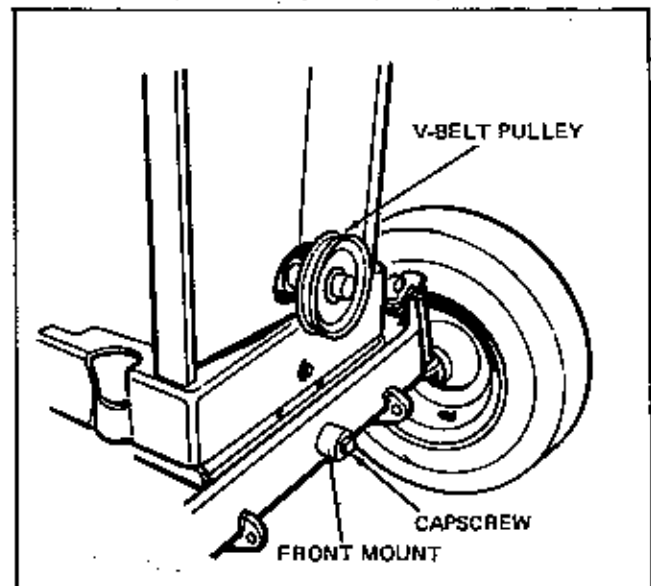

Figure 4.
4. Remove front axle bolt and replace with 1/2 x 4-1/4" capscREW using the No. 125110 front mount in place of the flat washer. See Figure 4.
8. Install V-Belt pulley on crankshaft of engine using the No. 125088 key provided. See Figure 4.